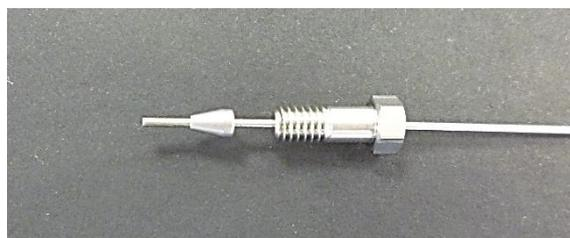

Figure 21. Assembly of 1/32" OD tubing with stainless steel nut and ferrule for 1/32" receiving ports
- Slide a nut and a ferrule in the correct direction onto the tube end (as in Figure 21).